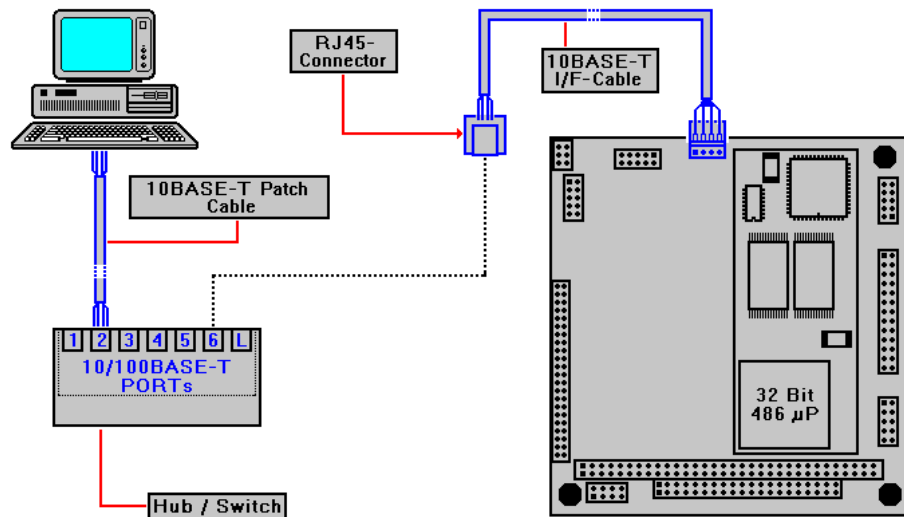

Figure 7: Ethernet connection via hub/switch
Figure 7 gives you an overview about the cable installation for the Ethernet Link. First of all, the 10BASE-T-I/F cable (that is a part of the Starterkit delivery volume) has to be installed. This cable owns a 4-pin plug connector as well as a RJ45 connector. The 4-pin plug connector must be connected with the corresponding connector of the CP/486SX2 base board.
- Figure 7: Ethernet connection via hub/switch